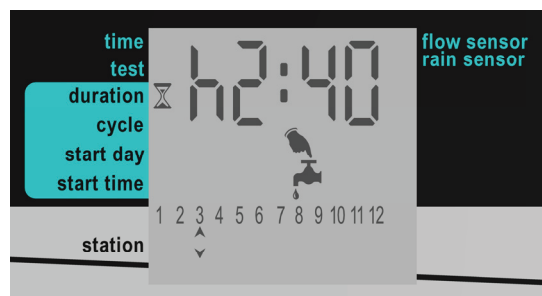

Figure 15: Duration Screen Example
1. Press **↶** until the Duration screen is displayed (Figure 15).
In Figure 15, the duration set is for 2 hours and 40 minutes for station 3. A duration of 0:00 sets the station to never open its valves (and therefore the sequence skips to the next station immediately).